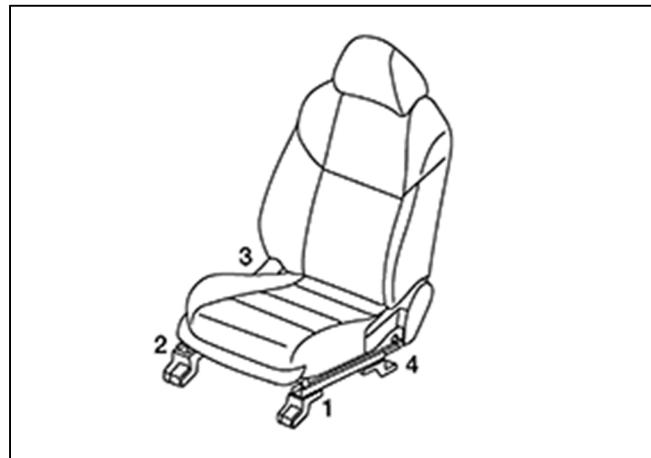

Figure 4
- Torque the seat bolts in the order shown in Figure 4.